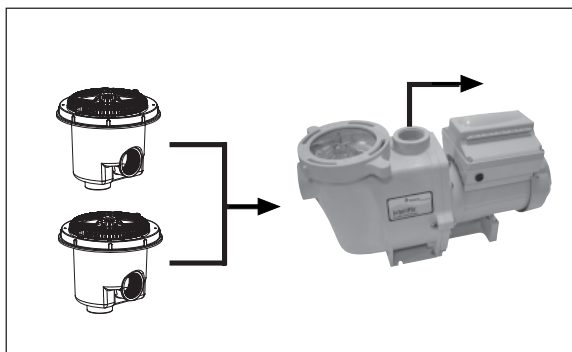

Figure 2: Two Suction Outlets per Pump
- In addition to two or more suction outlets per pump (Figure 2) installed in accordance with the latest APSP standards and CPSC guidelines, follow all applicable national, state and local codes.